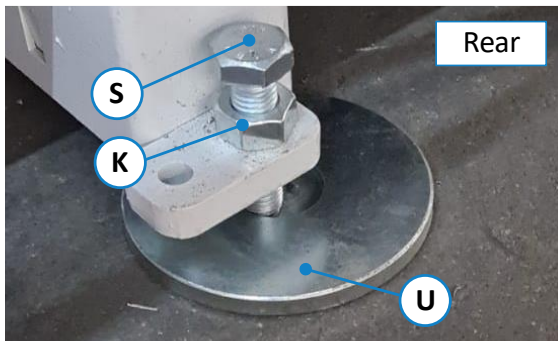
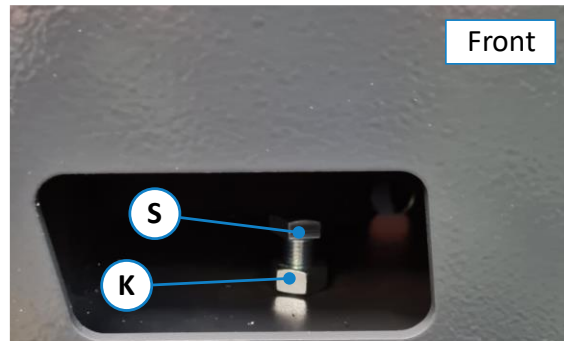

Figure 11: Levelling screws at the rear (normal case)
Figure 12: Front levelling screws (exceptional case)
When setting up the machine, it must be properly aligned with a machine spirit level (0.1 mm/ 1 m). For this purpose, the machine has two adjustable feet with corresponding set screws (S) on the rear side (⇒ Figure 11) and two round plates (U) as a base. In the **normal case**, the front of the machine stands flush on the two pedestals. Level here only in **exceptional cases** (very uneven floors).
1. Before setting the machine down, lower it only close enough to the ground so that the two plate feet (U) shown in ⇒ Figure 11 can be placed centred under the screws (S).
2. Only in this exceptional case are the front adjusting screws (see ⇒ Figure 12) necessary for levelling. However, these are only accessible after the front cover plate is removed.
3. Before adjusting, raise the machine on the front side so far that the two round plates (U) can also be placed here centred under the adjusting screws (S).
4. Then loosen the four lock nuts (K) shown in ⇒ Figure 12 and ⇒ Figure 11 and adjust the height on all four screws (S) until the machine is evenly level.